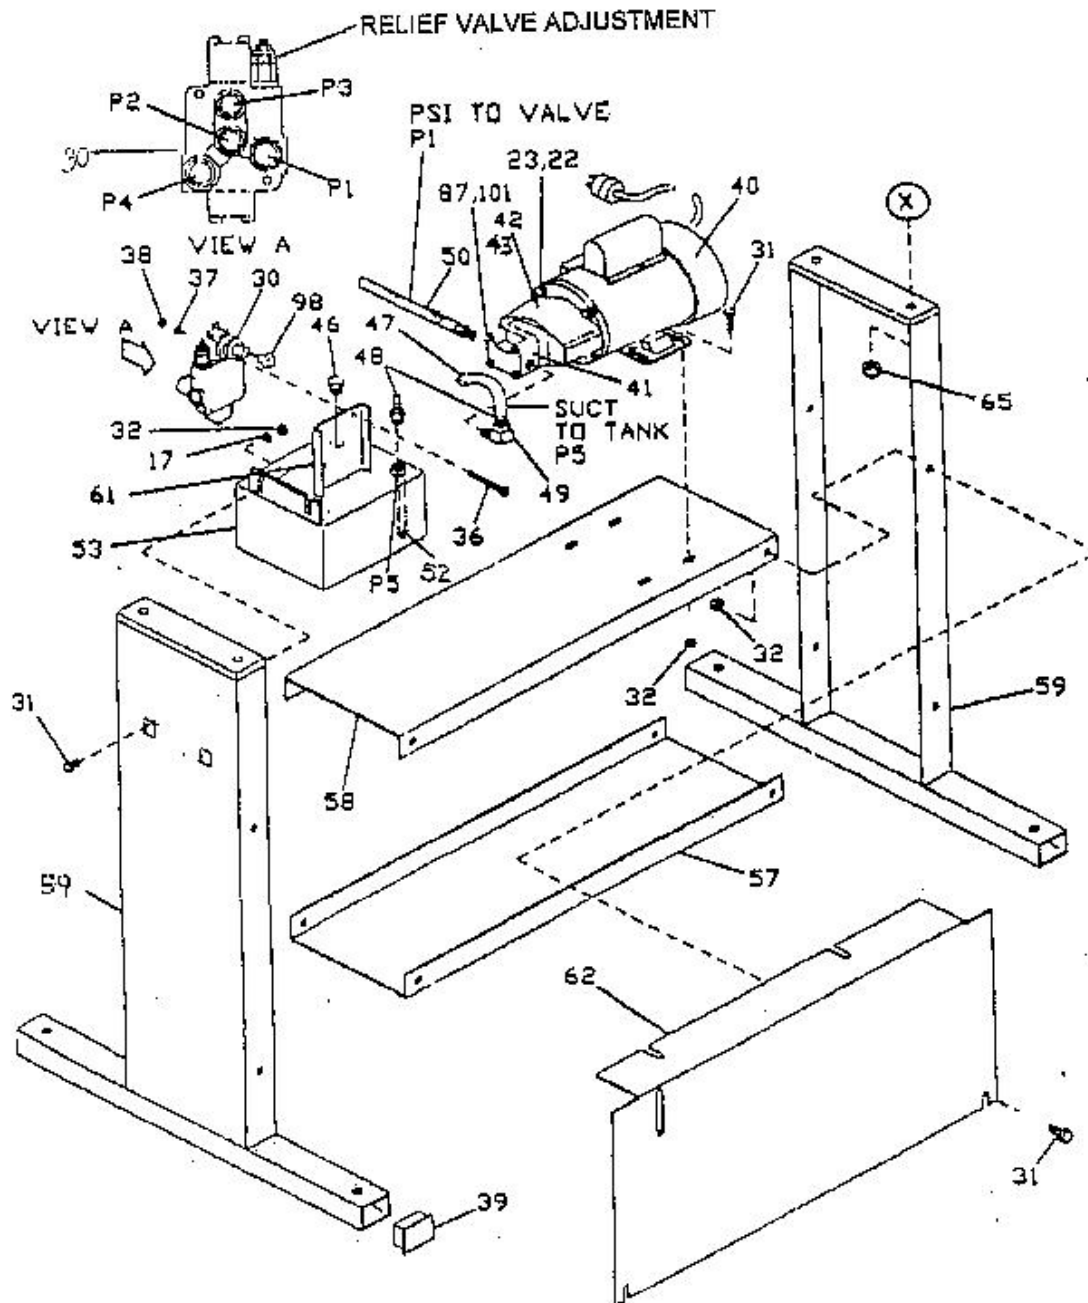

Figure 2- Leg Stand Assembly
(Refer to Figures 2, 3, 4 & 5)
(Refer to Figure 2)
2. Before removing the lifting strap, install four 1/2-13 x 1-3/4" hex head screws (11), 1/2" flat washers (12) and 1/2-13 lock nuts (65) hand tight.
4. Position the front panel (62, Figure 2, page 8) so the lip of the panel is flush against the bottom of the main weldment channel iron by first slipping the long edge of the panel inside of carriage bolts (31) of upper shelf (58). Make sure the holes in the main weldment and the slots in the lip of the front panel are aligned. Install two 3/8-16 x 1" hex head screws (22), 3/8" flat washers (20) and 3/8-16 lock nuts (26) hand tight. You will be adding the slug chute (56) using these same screws.
5. Tighten the lower and the upper shelf mounting screws (Items 17, 31 and 32) providing the small lip of the front panel (62) is flush against the bottom of the power head.
6. Install the control valve lever (96).
(Refer to Figures 2, 3 and 4)